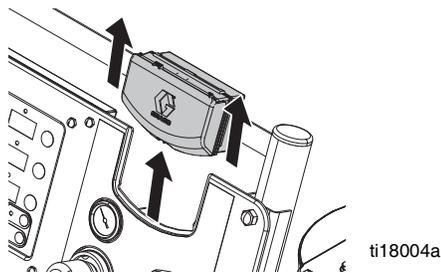

FIG. 19. Remove DataTrak
3. Remove DataTrak module from bracket. See FIG. 19. Take module and attached cable to a non-hazardous location.